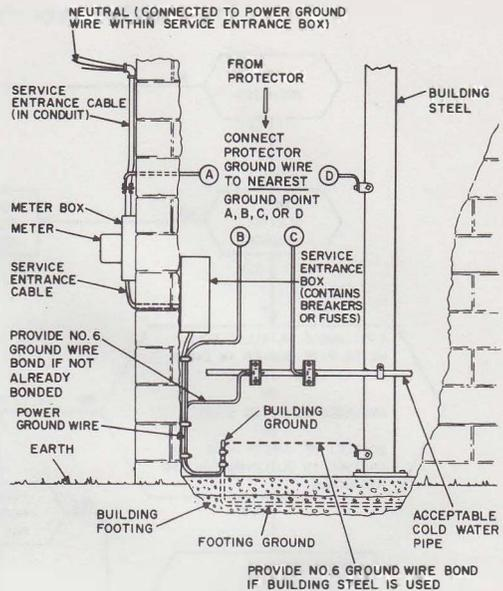

Fig. 43—Acceptable Water System or Building Ground (Power Service Grounded to Footing Ground)
6.04 Station protectors installed at locations where the power is grounded to a concrete encased electrode or to grounded building steel should be grounded as shown in Fig. 43 and 44.